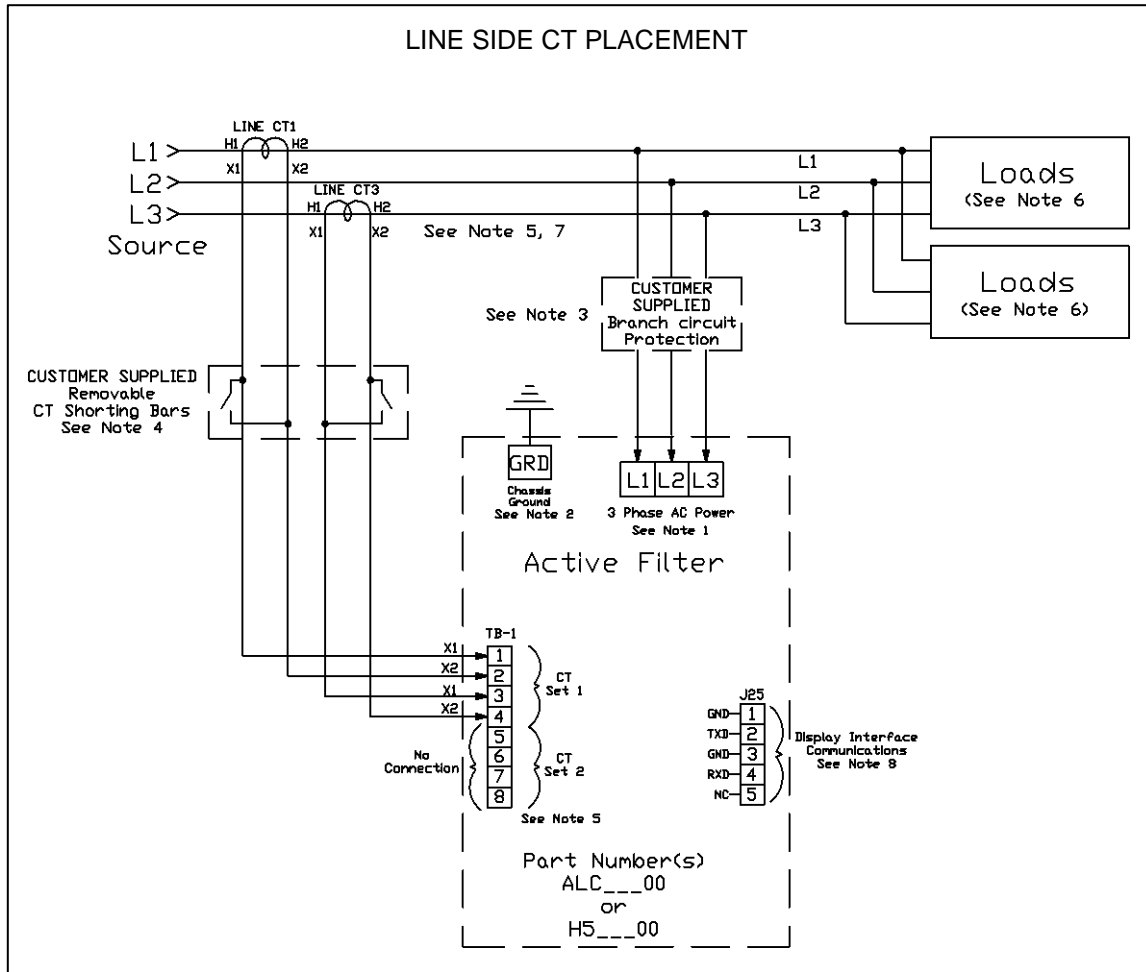
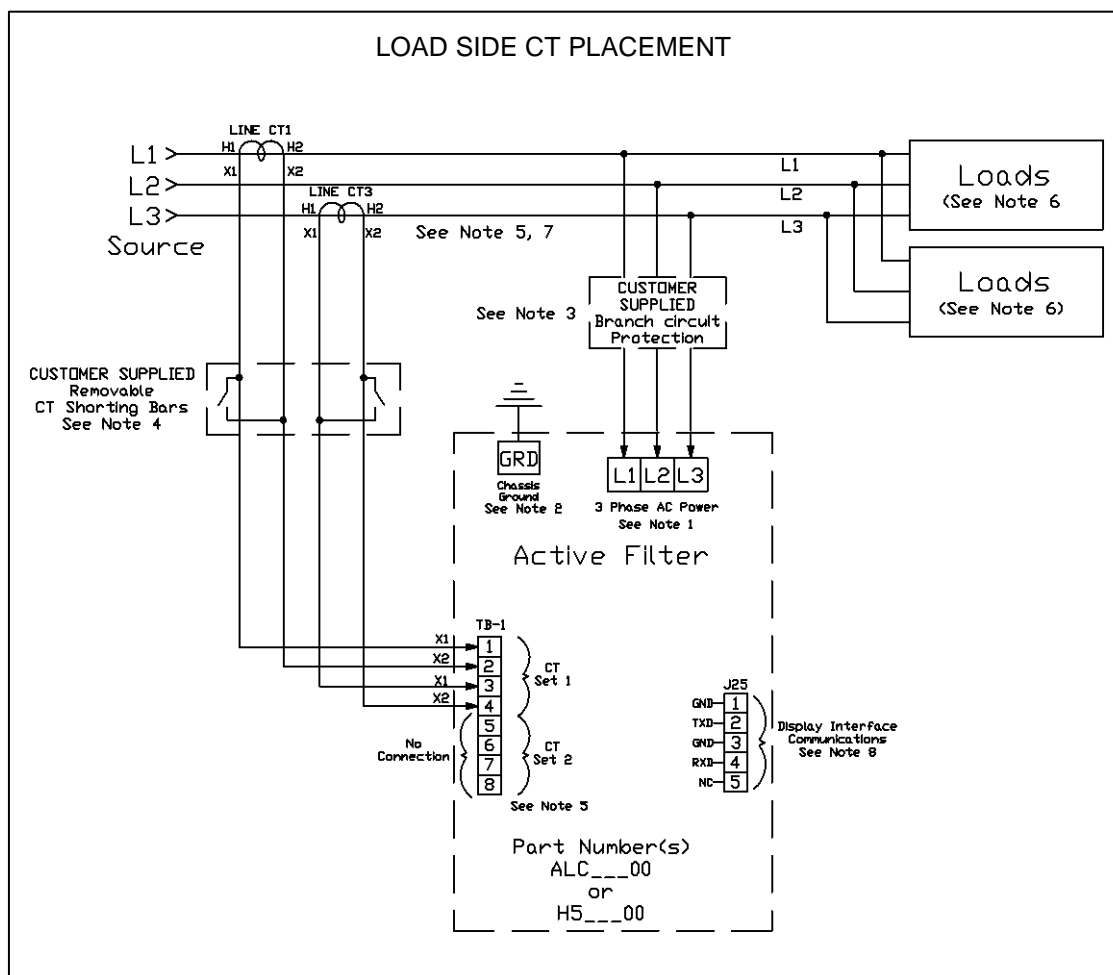

Figure 4.2: HGA 480V Single Unit Line Side / Bus Applied Connection Diagram
Figure 4.3: HGA 480V Single Unit Load Side / Drive Applied Connection Diagram
It is necessary for the HGA to monitor the current in Phase “A” (L1) and Phase “C” (L3). Stand-alone HGA filters are designed for Line Side current transformer (CT) placement as shown in **Figure 4.2**. It is important that both CTs are on the same side of the HGA. The CTs should be centered around the conductor. Optional Load Side CT placement is available for single units as shown in **Figure 4.3**.